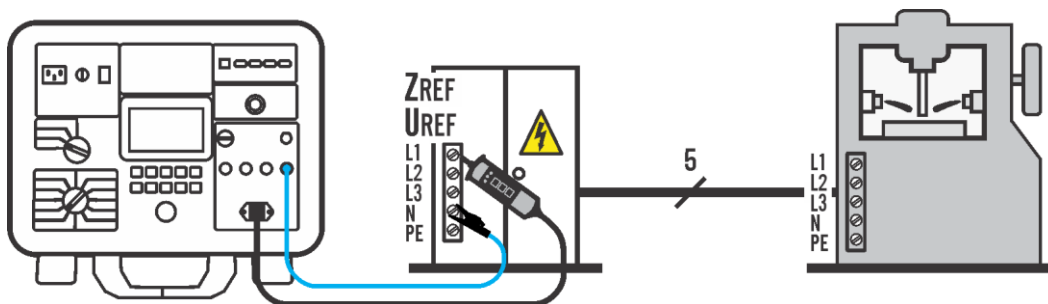

Figure 32: Connection for ZREF and UREF measurement (L/N connection), example
- 1) Connect test leads according to figure 32, red mains icon will turn to green as a confirmation the connection was properly done and input mains voltage is within 100 and 253 V (L/N connection) or within 170 and 440 V (L/L connection).